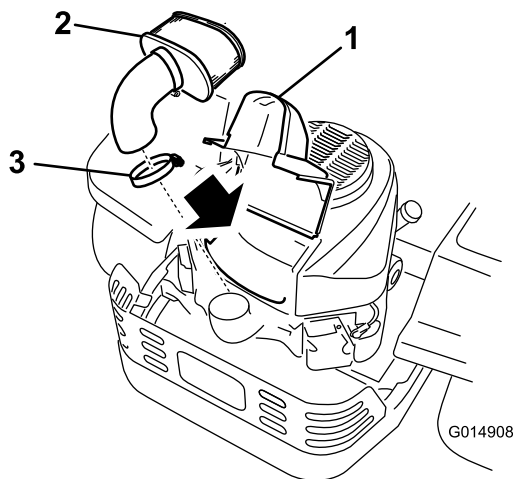

Figure 28
4. Lift the cover and remove the hose clamp securing the air-cleaner assembly to the engine (Figure 28).
5. Loosen the hose clamp and remove the paper element (Figure 28).